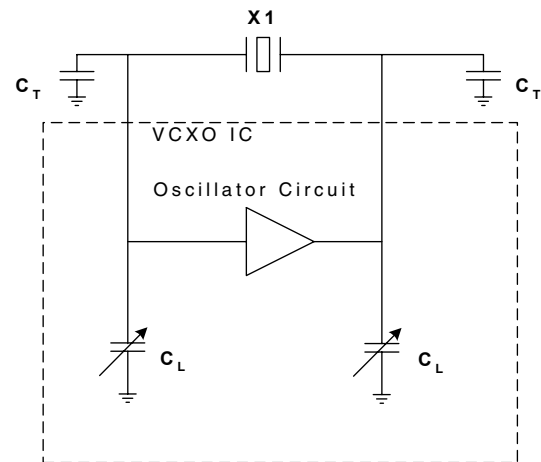
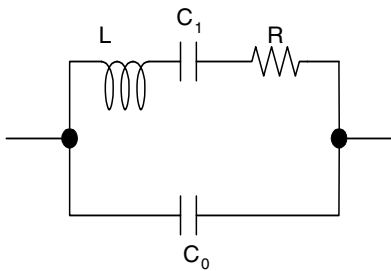

Figure 1 - VCXO Circuit
Figure 2 - Equivalent Circuit of a Crystal
3. Load capacitance. This is the capacitance, specified in picofarads (pF), which the oscillator circuit presents to the crystal for the crystal to resonate on frequency. Load Capacitance is comprised of a combination of the circuits' discrete load capacitance, stray board capacitance, and capacitance internal to the ICS device. Because this includes the stray capacitance of the circuit board, we recommend that pads for small capacitors (CT in figure 1) be provided in your layout to make small adjustments to the total capacitance. Details are given in the Layout Considerations section.
A VCXO circuit operates by changing the value of variable capacitors to ground, or load capacitors (CL in figure 1), which changes the oscillation frequency. Crystals can be specially built to make them more sensitive to this, i.e. more pullable. Figure 2 shows a simplified equivalent circuit of a crystal, which includes C0 (shunt capacitance), which represents the parasitic capacitance between the leads and between the electrodes, and C1 (motional capacitance), which, together with L, is an electrical model of the piezoelectric behavior of the crystal.